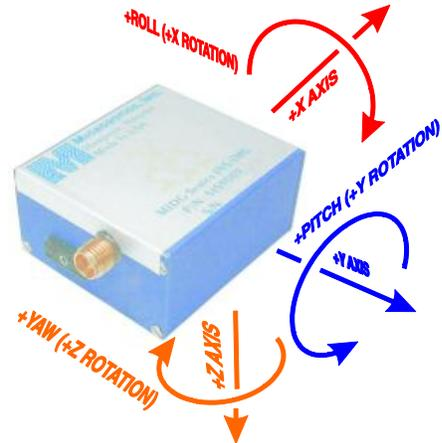

Figure 21. MIDG Series INS/GPS Axes
7.3 Mounting Orientation. The MIDG Series INS/GPS can be mounted in any orientation within an application. However, for optimal performance, the MIDG Series INS/GPS should be mounted as closely to the center as possible and with the same orientation as the application (i.e. the front of the unit pointed in the same direction as the front of the application). Figure 21 shows the three axes of the MIDG Series INS/GPS for aiding in proper mounting of the unit.